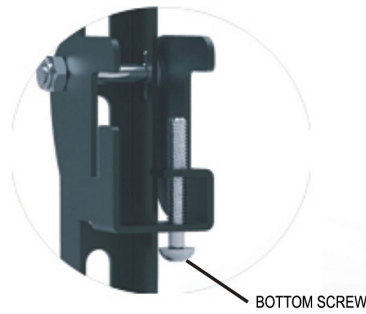

Figure 9
3. Tighten the bottom screw to lock the bracket (Figure 9).